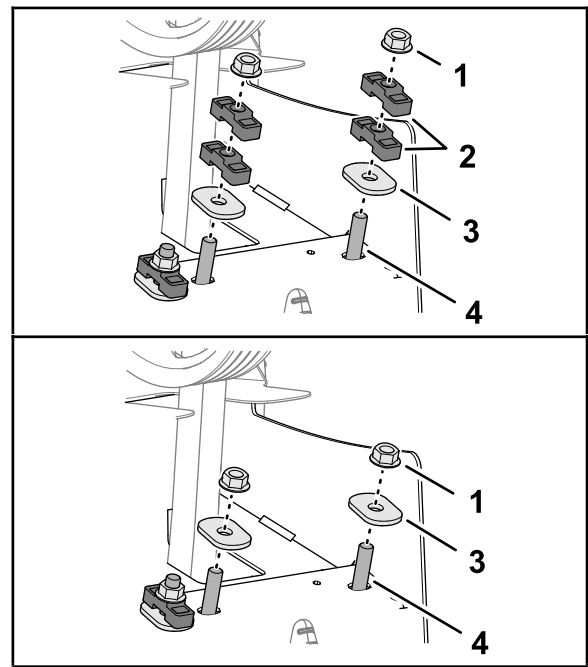

**Figure 123**
6. Secure the dampener shaft and spacers to the rear frame with the hardened oval washers and locknuts (Figure 123).